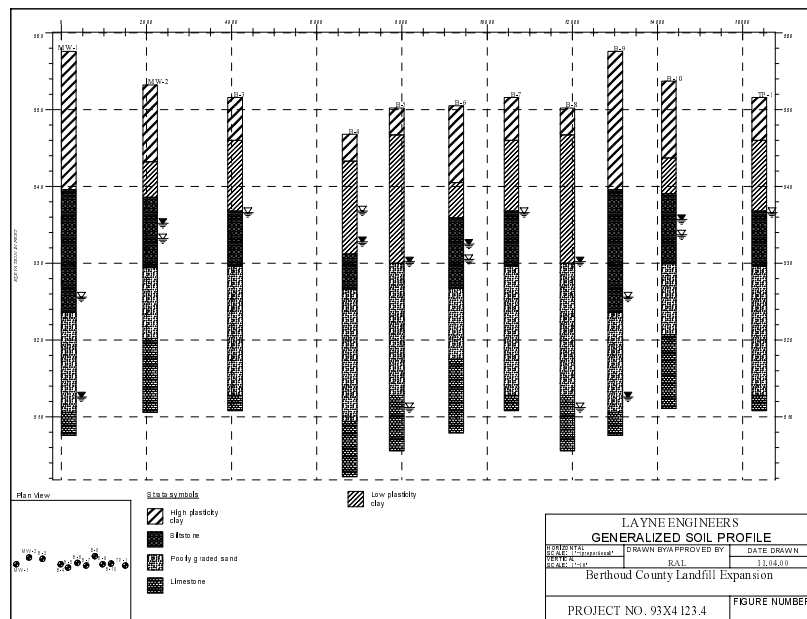

Figure 7.1 - Profile Report
Subsurface profiles are reports that can be used to show more than one boring per page. When you create the subsurface table for a profile report, you're telling the program how to draw a *single* boring: LD4 uses the same subsurface table entries to draw each boring. This involves using the Table section of the form (discussed in Chapter 4) to lay out the items that should be shown for a single boring on the profile. For example, LD4 drew Figure 7.1 from a report form whose subsurface table consisted of two columns: one column containing the boring number and the stratigraphy and the second column containing the groundwater symbols. LD4 then used the same two table columns to draw each boring.
Profile reports typically add the boring number to the top of the stratigraphy column, as Figure 7.1 illustrates.
17. Now there's two lines of text to be shown at the top of each boring: when a horizontal scale is plotted at the top of the profile (as shown in Figure 7.1) the boring number and elevation text is likely to run into the scale. To avoid this, select Sections > Form Settings, click on the **Profile** tab then change the **Horizontal scale location** to "Bottom of profile".